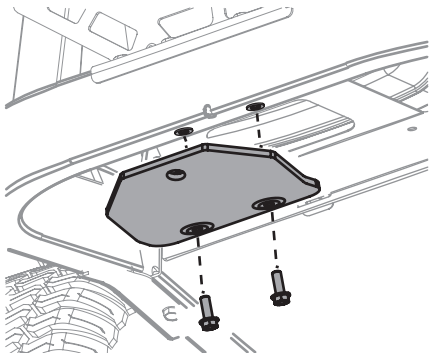

Figure 2
1. Locate hitch (a) and install on the rear of the frame using the two hex washer screws (b) provided (Figure 2).